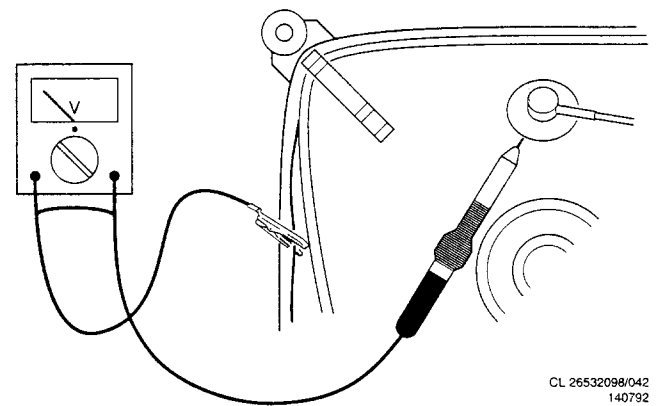

Fig. 3.1
2. In order to prevent damage to ICs and transistors, all high-voltage flash-overs must be avoided. In order to prevent damage to the picture tube, the method shown in Fig. 3.1 should be used to discharge the picture tube. Use a high-voltage probe and a multimeter (position DC-V). Discharge until the meter reading is **0 V** (after approx. 30s).